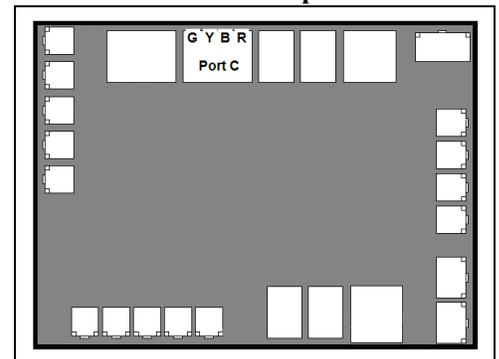

Figure 8
6. Use "Port C" on the control boards as indicated. Connecting the "Y" to the "Y" and the "B" to the "B" on each heat pump's port "C" connection point. The "G" and "R" connection points are not used. See Figure 8.